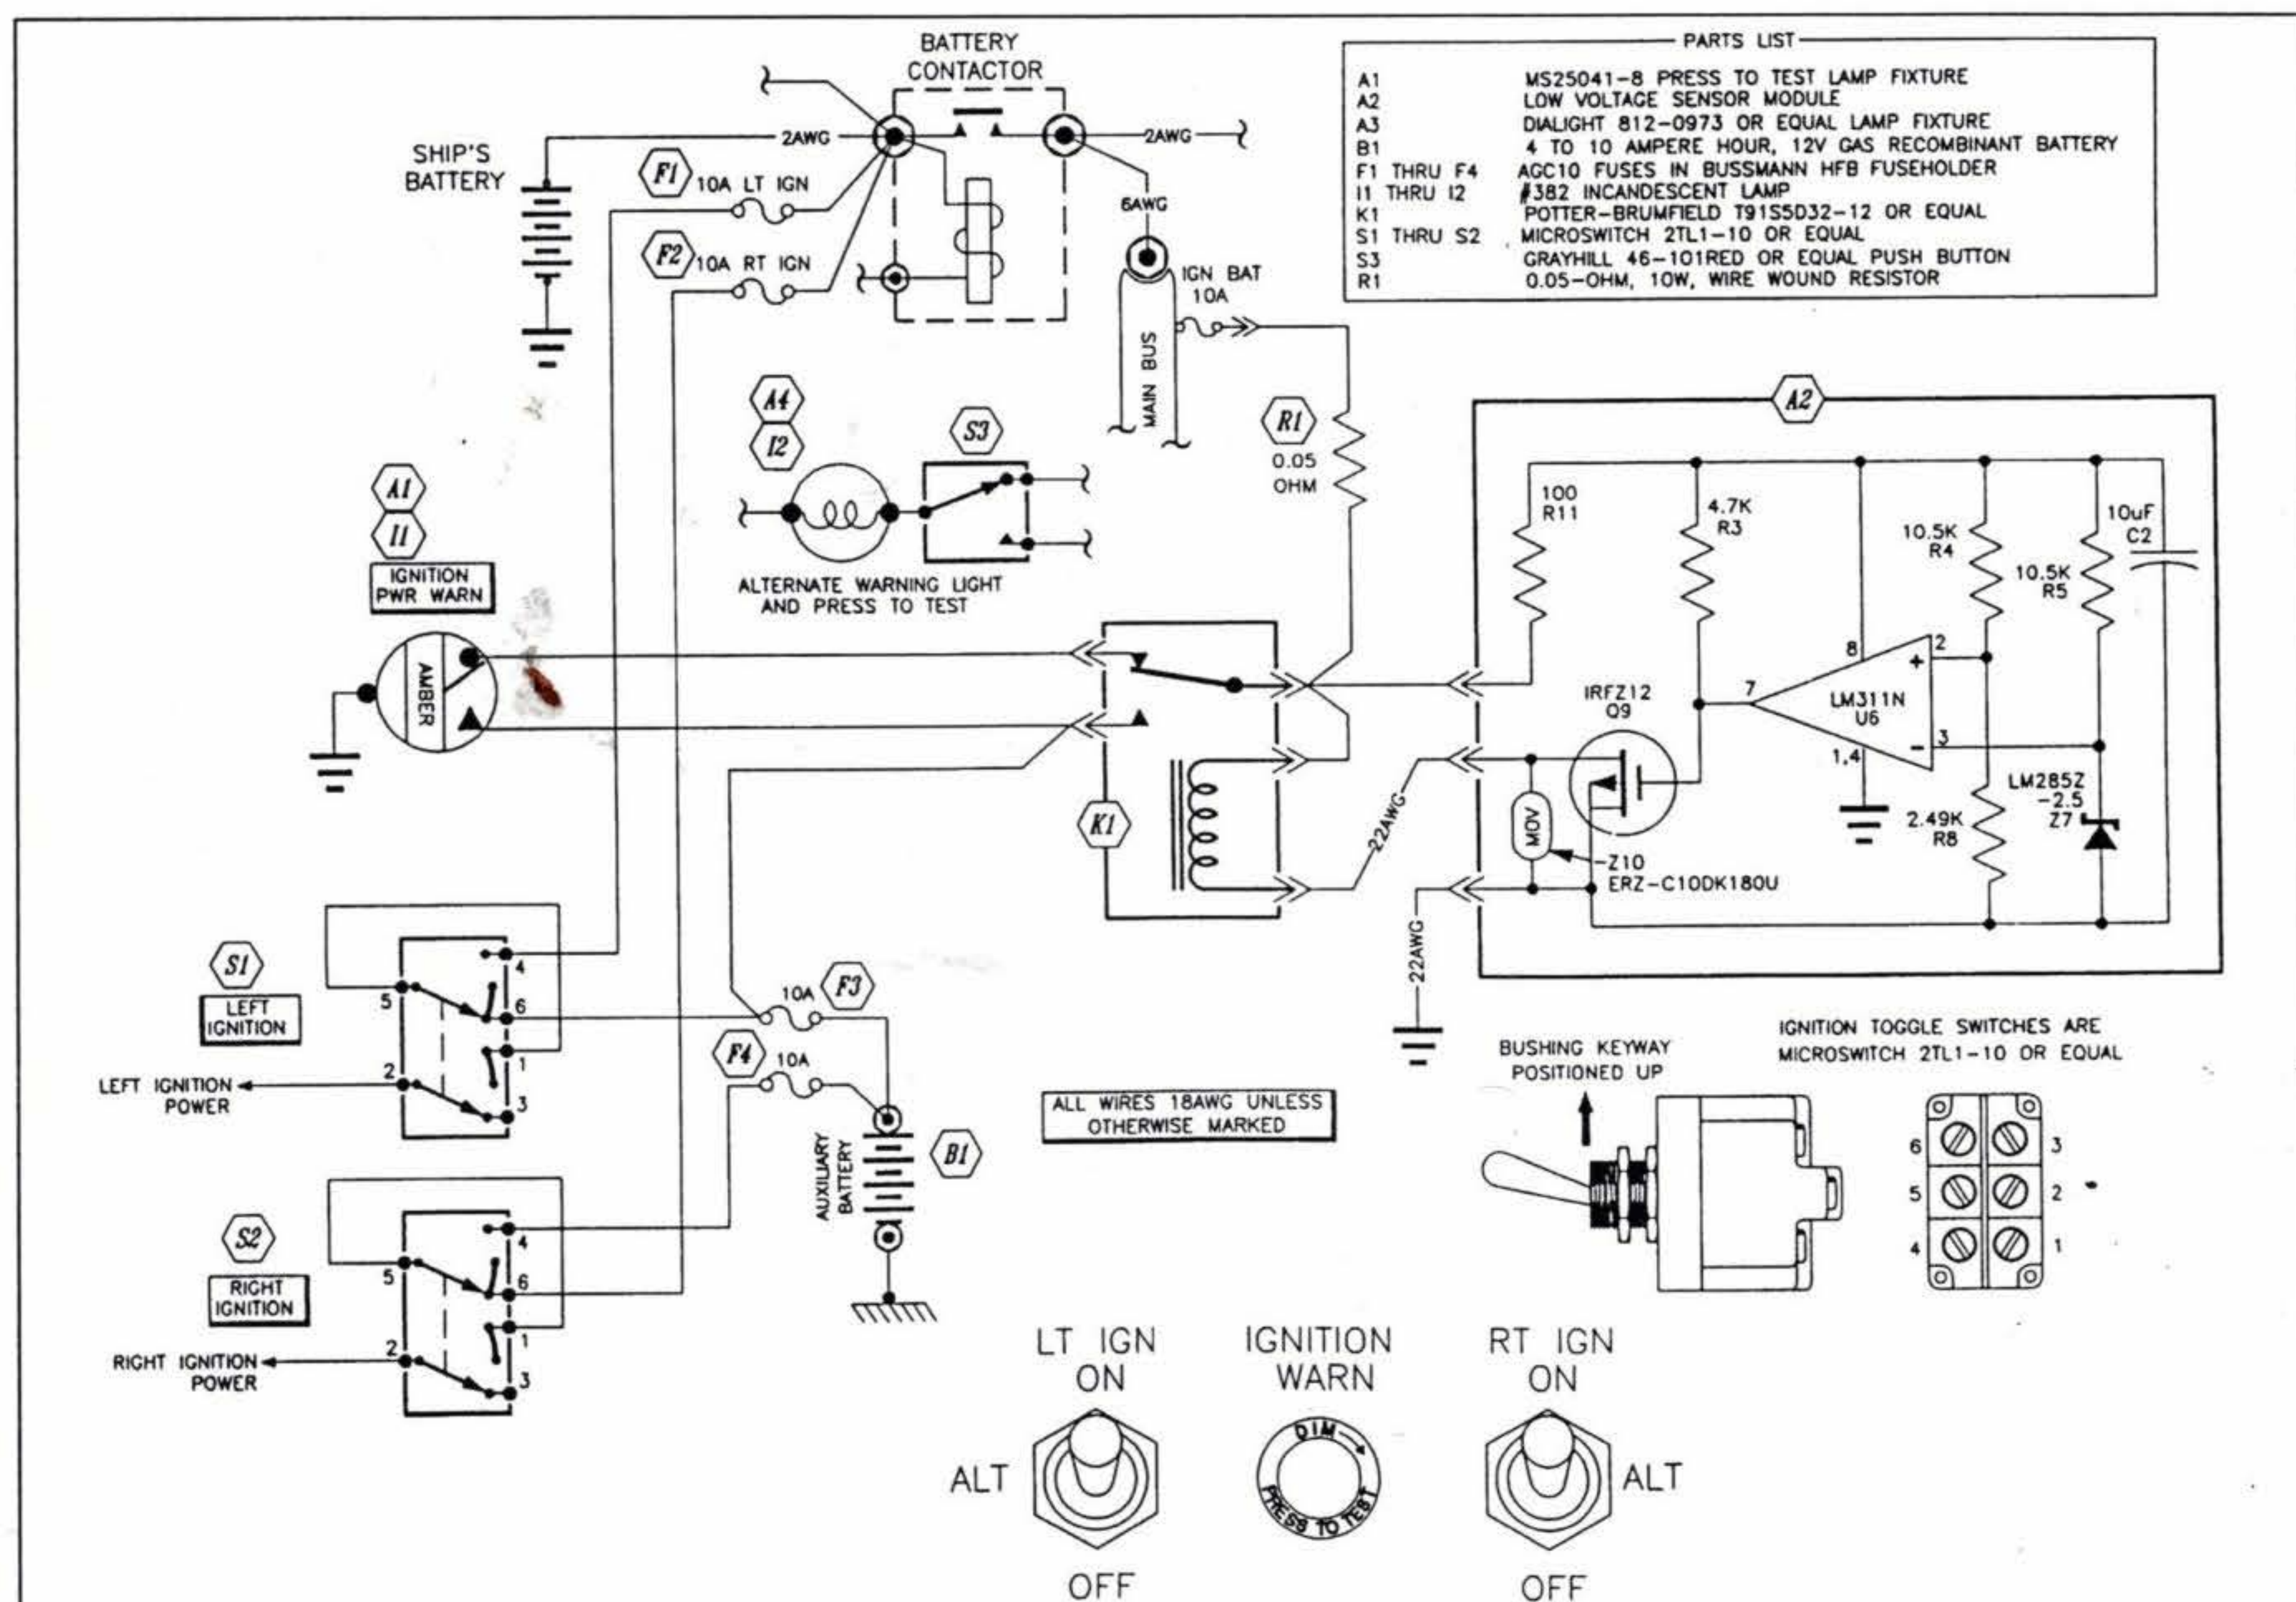

Figure 1 Dual Electronic Ignition Power System
Figure 1 illustrates a preferred architecture for dual electronic ignition systems power management on aircraft engines. This design meets several important design goals: (1) connection of an auxiliary battery to the main bus is accomplished through hard contacts—
The information in Figure 1 is sufficient for anyone with rudimentary skills in electronics to assemble the low voltage sensing module. My sincere thanks to those who contributed to the evolution of this concept. Let me know if you have an interest in purchasing the low voltage sensor module assembled and tested. Given sufficient interest, I'll develop a qualified source for assembled units.